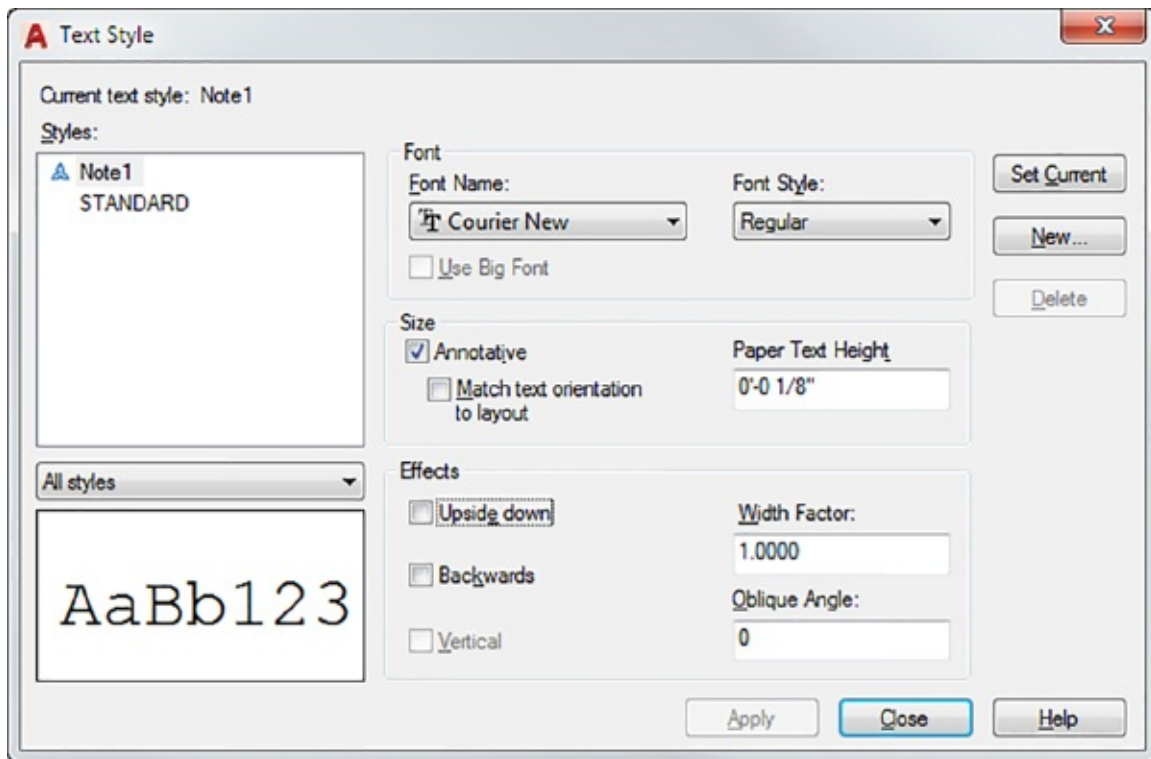

FIGURE 9.2 The Text Style dialog box
1. Click the Text Style drop-down list from the Home tab's expanded Annotation panel and select Manage Text Styles, or type **St**↵. This opens the Text Style dialog box (see Figure 9.2).